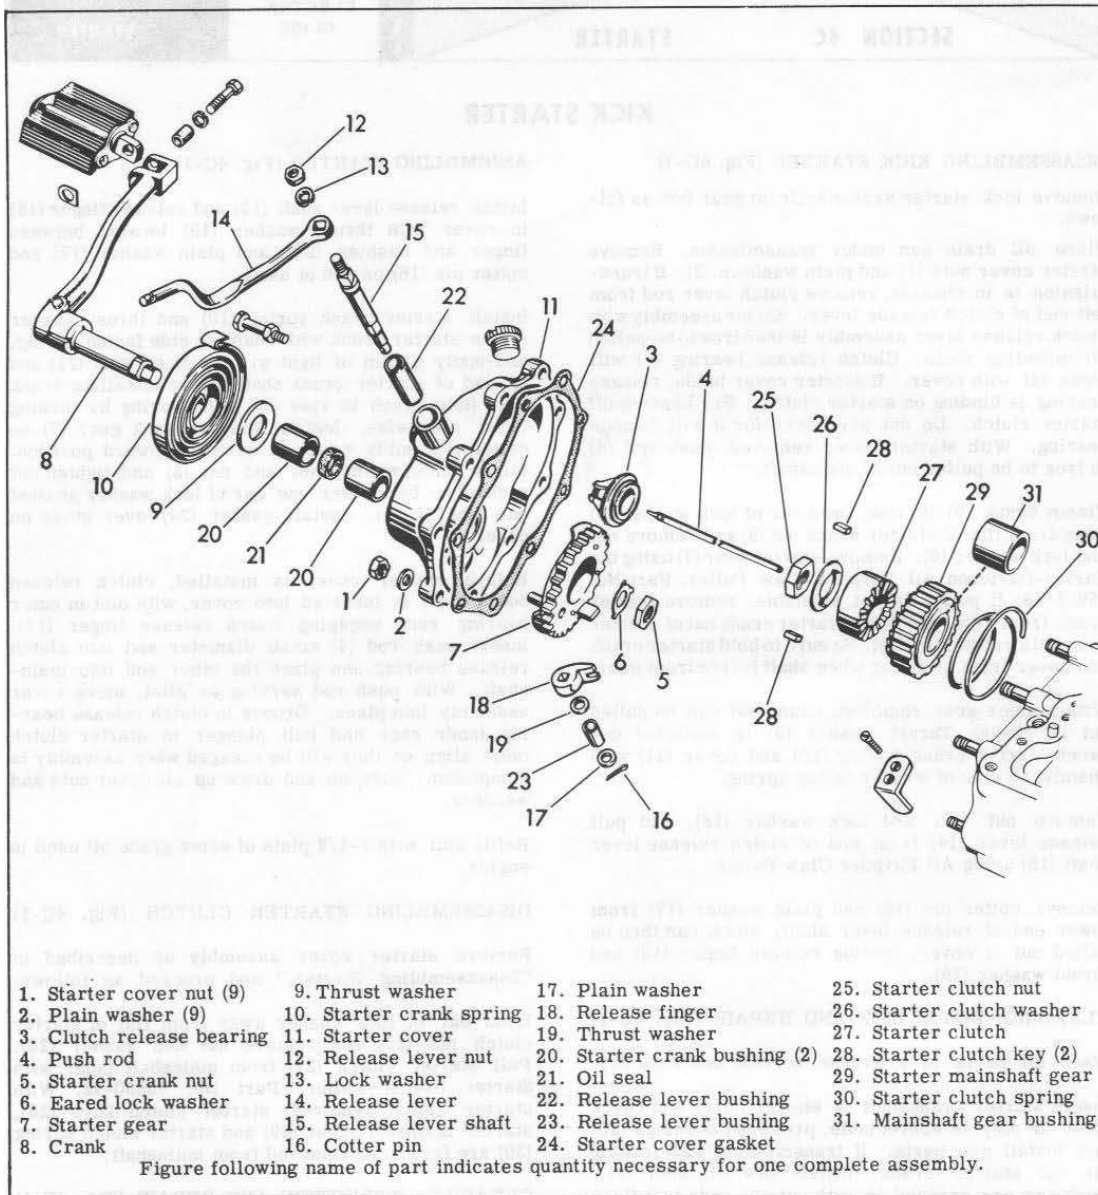

Figure 4C-1. Kick Starter Assembly - Exploded View
## CLEANING, INSPECTION AND REPAIR (Fig. 4C-1)
**ASSEMBLING STARTER CLUTCH (Fig. 4C-1)**